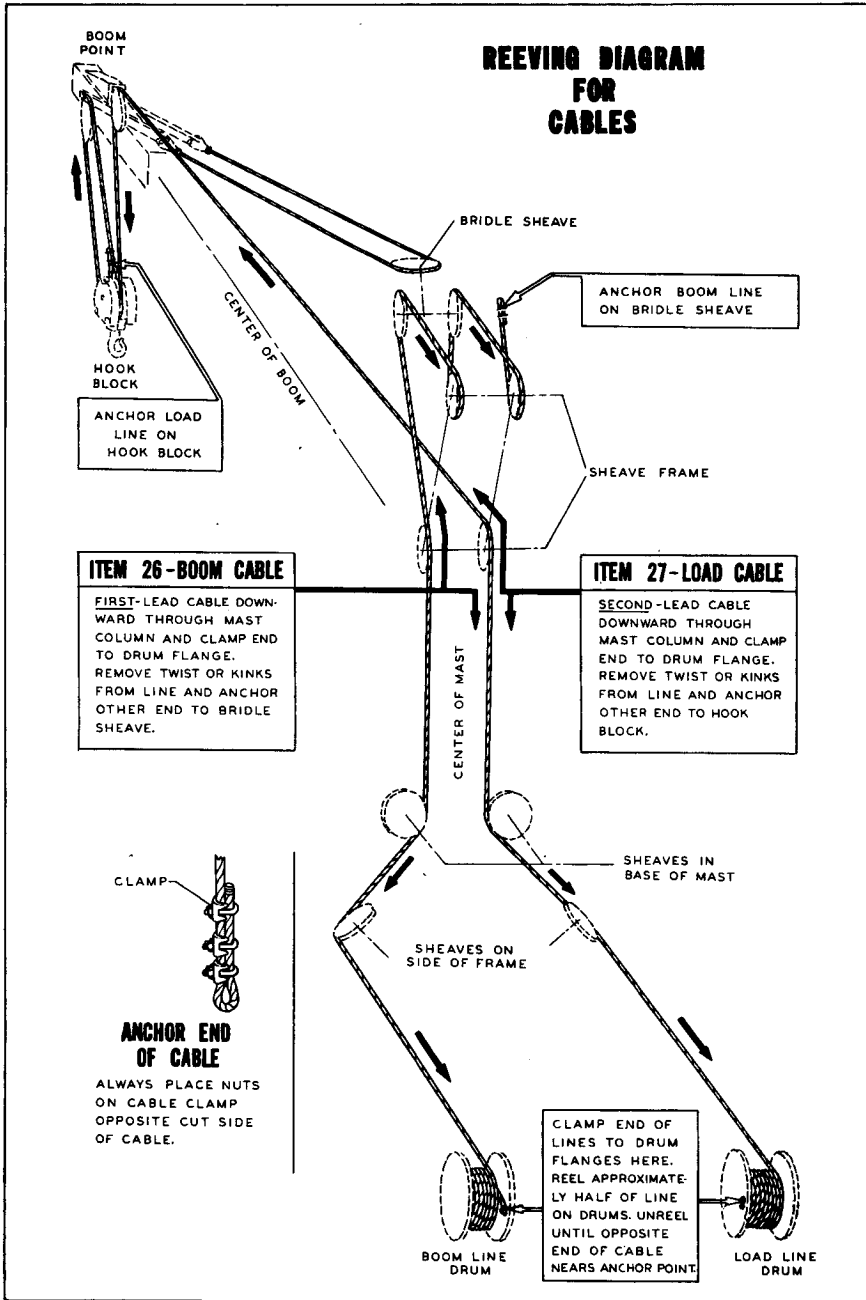
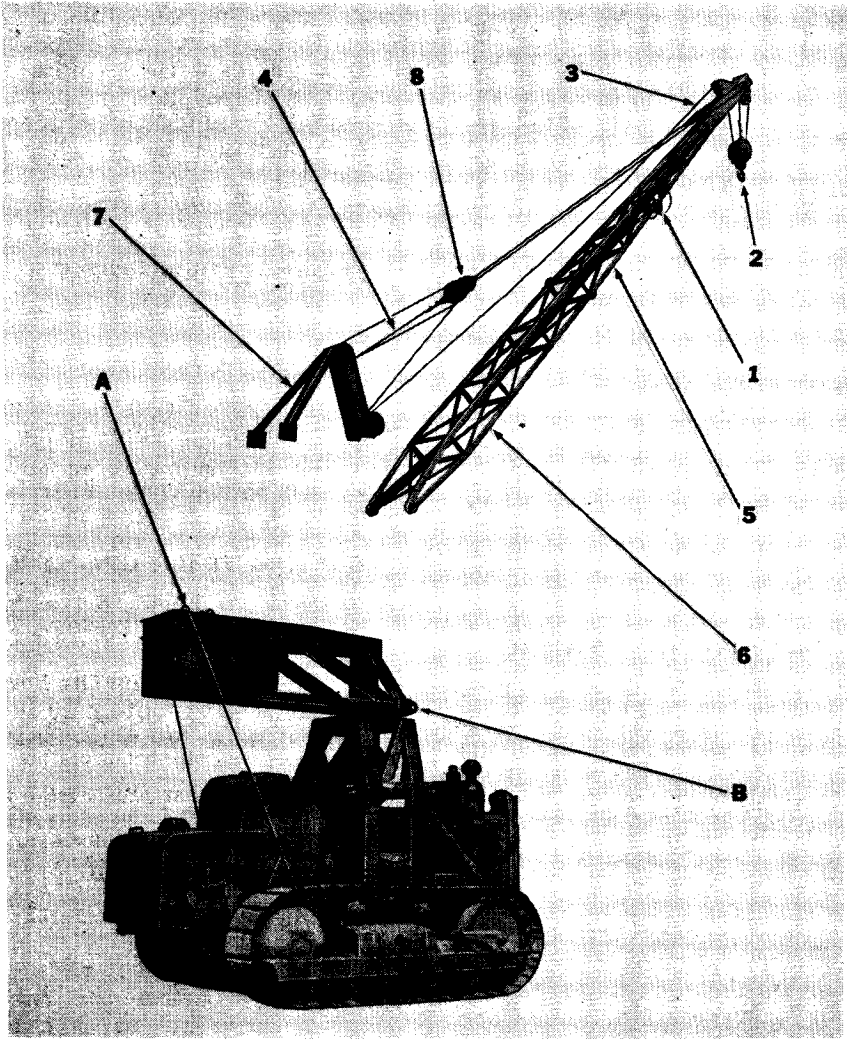

Figure 24 Reeving Diagram for Cables
Figure 30 Removal of Parts for Shipment
Study diagram, Figure 24, which illustrates the reeving of the cables. Unreel cable (Item 26) and lay it out full length. Rotate the cable until there is no evidence of twists or kinks, then thread it downward and through the mast column. Lay the cable over the left lower sheave in the sheave frame. Lead it out the left side of the main
The length of the boom and overall height of the machine must be considered when the tractor mounted crane is prepared for shipment by rail or truck. Certain portions of the crane assembly should be removed. A tractor and crane attachment shipped as a unit require a portion of the crane assembly to be removed as illustrated, Figure 30. The boom, lines, bridle sheave and sheave frame, shown in the upper portion of the illustration, indicate the portion of the crane to be disassembled.
By removing the upper frame portion (7), shown in Figure 30, the overall height is reduced approximately 3½ feet. See overall dimensions shown Page 2 of the Operations Section. It is an essential requirement to remove the 30-foot boom.
Refer to Figure 30 showing the
Hold the boom and disconnect it from the counterweight frame. This is done by removing pins from the hinge point at the base of the boom. See (B), Figure 30.
Tie the counterweights and frame with several strands of heavy wire or a portion of cable to eliminate the tendency for the counterweight frame to swing while the machine is in transit. Thread and make a loop of the cable or wires through the pickup loops on the counterweights. See Position (A), Figure 30. Tie the ends of the cable or wire to each side of the tractor by anchoring the ends around the tracks as indicated in Figure 30.
Refer to Figure 30 showing the boom, lines and other parts to be reassembled. Raise the full length of the boom and connect it to the counterweight frame with hinge pins (B), shown Figure 30. If the boom is a two-piece construction and it is desirable to handle the separate sections, attach the lower section (6) to the counterweight frame. Then connect the two sections at the mid-point with lock pins. Proceed cautiously and do not drop the boom into the tractor.
Disconnect boom line (4) from the counterweight frame and unreel a considerable length of line in order to thread the line through the sheaves and blocks. Refer to Item 26, Figure 24, showing the proper method of threading the lines. Make certain there is no
twist in the line, then anchor the end of the line to the bridle sheave (8), Figure 30. Place the nuts on cable clamps opposite the cut side of the line and set the three clamps firmly.
Disconnect the load line (3), Figure 30, from the counterweight frame and lead the line to the upper sheave of the boom point. Remove twists or kinks from the line. Refer to Item 27, Figure 24, showing the course of the load line through the boom point and swivel book block (2). Anchor the cable on a hook block with the three cable clamps provided. Place nuts of the clamp opposite the cut side of the line and set the nuts firmly. Replace the boom lamp, brackets and guards shown in position (1), Figure 30. Uncoil the light wire and reconnect it to the boom lamp. This should complete the reassembly of the parts which were removed prior to shipment.